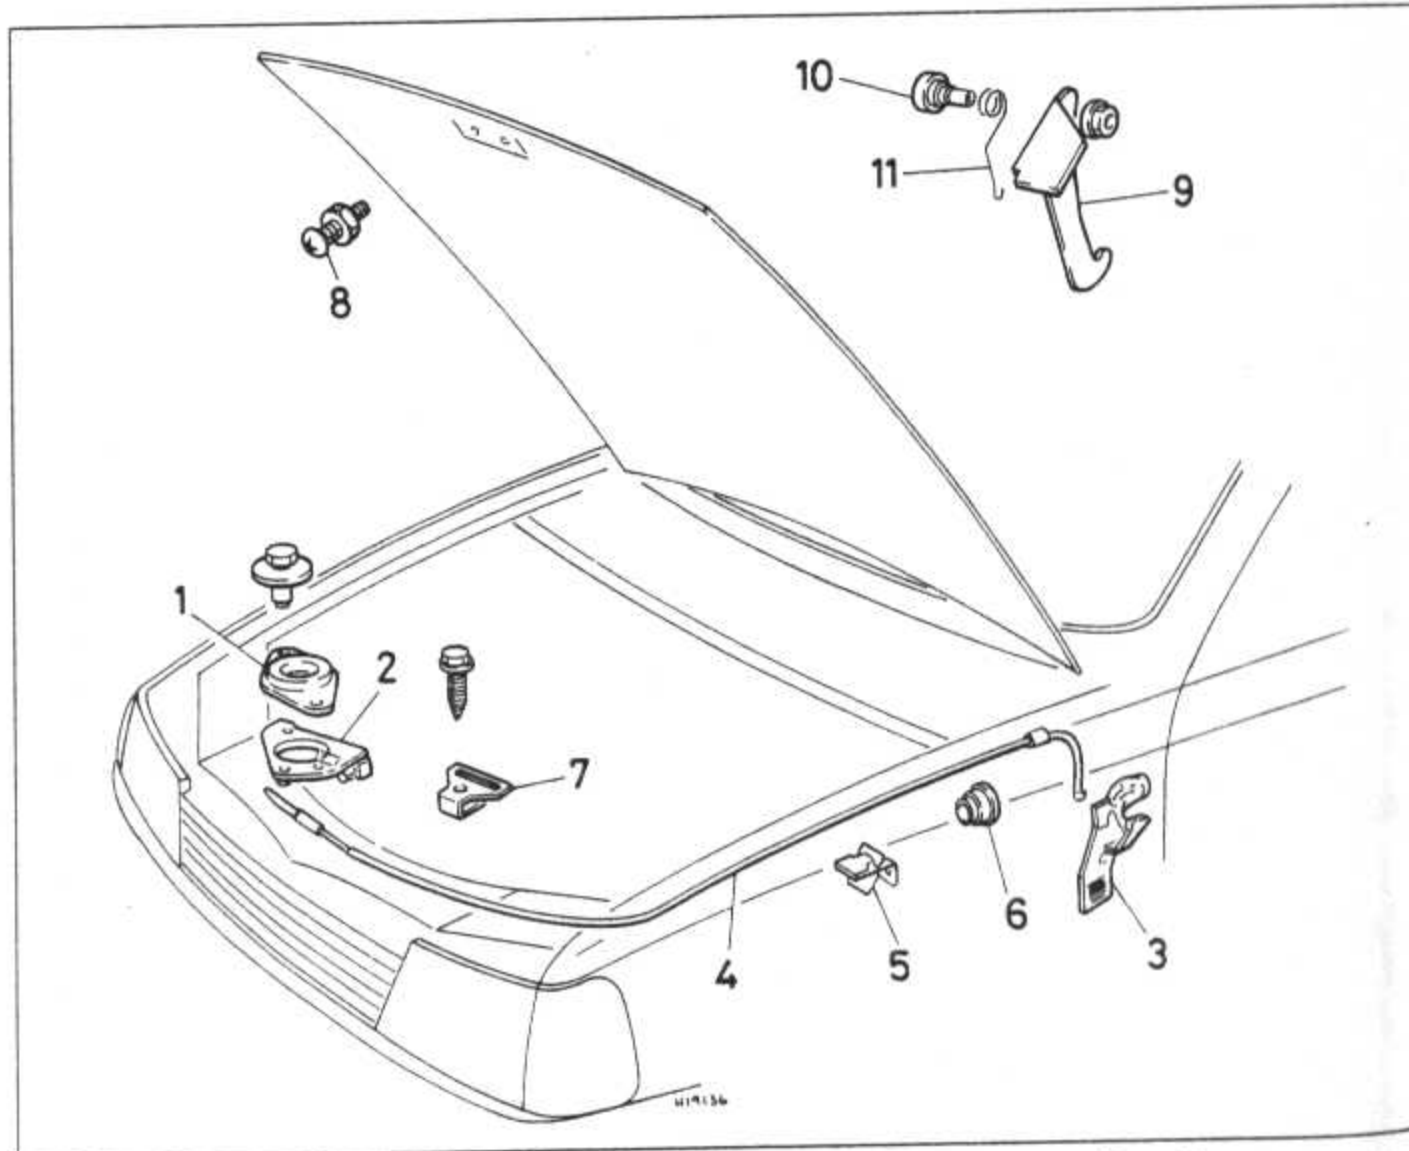

Fig. 11.2 Bonnet lock and release cable components (Sec 7)
- 3 Unbolt the lock from the crossmember and disconnect the control cable (Fig. 11.2).